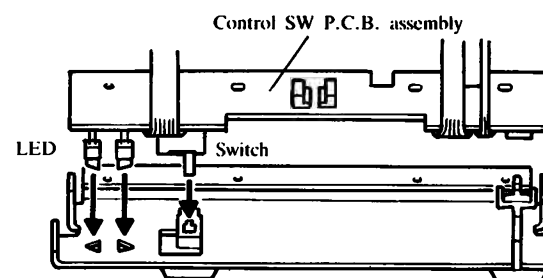

Fig. 62
- (2) Put the control SW P.C.B. assembly to the control panel by adjusting the two direction indicator lamps and the lever of mode selector switch to the holes on the panel and knob. (Refer to Fig. 62)